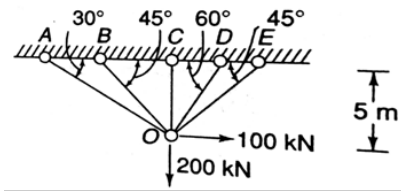

Figure 8
6. Analyse the pin-jointed structure shown in Figure 8 by using flexibility method. The cross sectional area of each member is  $2000 \text{ mm}^2$ . Take  $E = 200 \text{ kN/mm}^2$ .